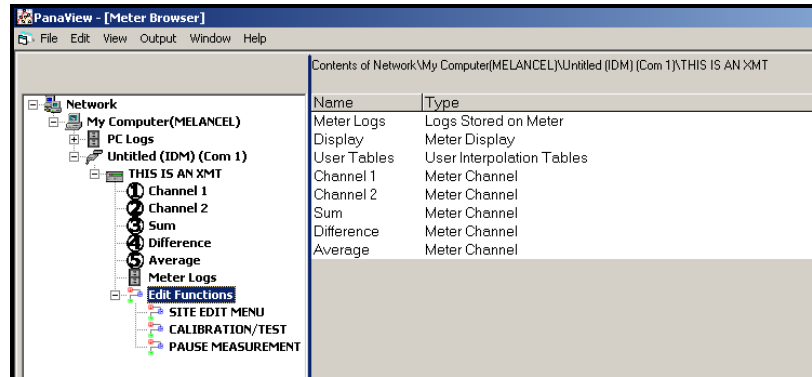

Figure 41: Menu in the *Edit Functions* Option
- 2. Expand the *Edit Functions* option. The window now appears similar to that shown in Figure 41 on page 26.